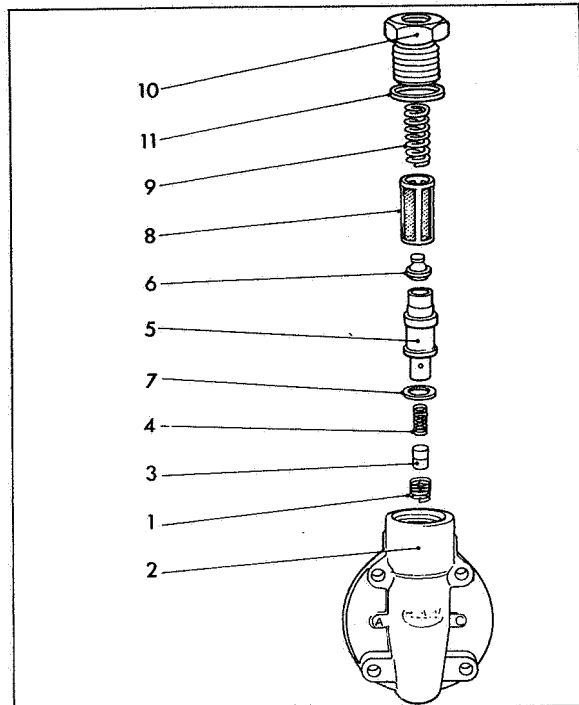

Fig 59 End plate assembly
Place piston retaining spring (1) Fig 59 into end plate (2). Insert the regulating piston (3), then the piston regulating spring (4) into the large diameter end of the regulating sleeve (5). Insert the small end of the spring peg (6) into the same end of the regulating sleeve. Fit a new sleeve washer (7) onto the other end and place the complete assembly into the end plate, spring peg uppermost. Assemble the filter (8) and sleeve retaining spring (9) into the end plate and secure with the inlet connection (10) and inlet connection washer (11).